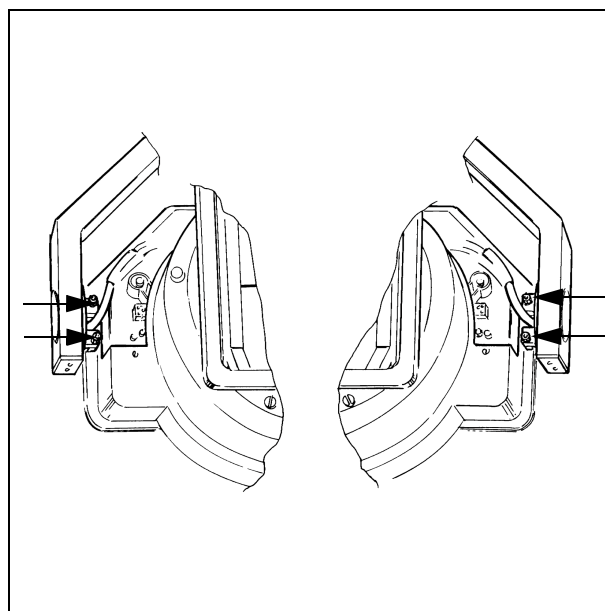

Fig. 17
- Remove the screws and nuts (Fig. 17) bolts placed in the ends of the axis of rotation.
- Install the four screws according to (Fig. 17).